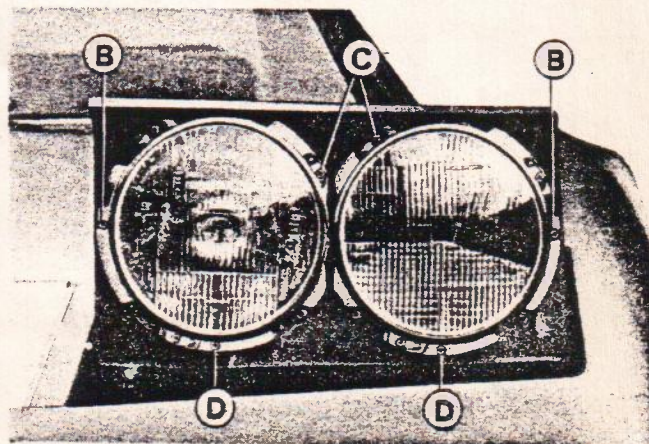

Fig. 23 - Fastening & Alignment Screws
- Loosen screw C, pull out the headlight and remove bulb F (Fig. 23).